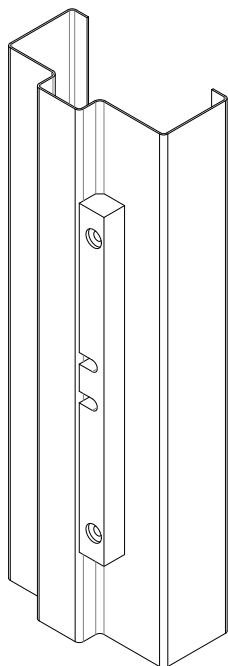

Figure 3.3
3. Mark the Filler Plate mounting holes on the Door Frame. (See Figure 3.3 to 3.5)